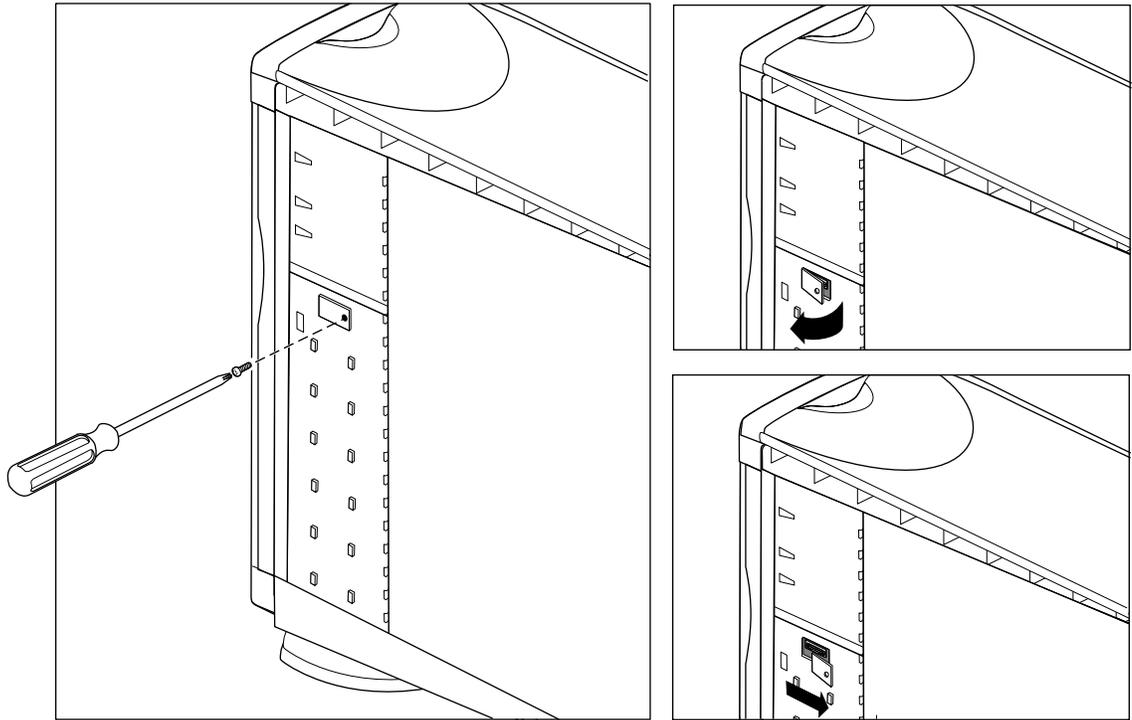

Figure 2-9 Removing the Module System Controller (MSC) Access Plate
2. Remove the module system controller (MSC) access plate, as shown in Figure 2-9